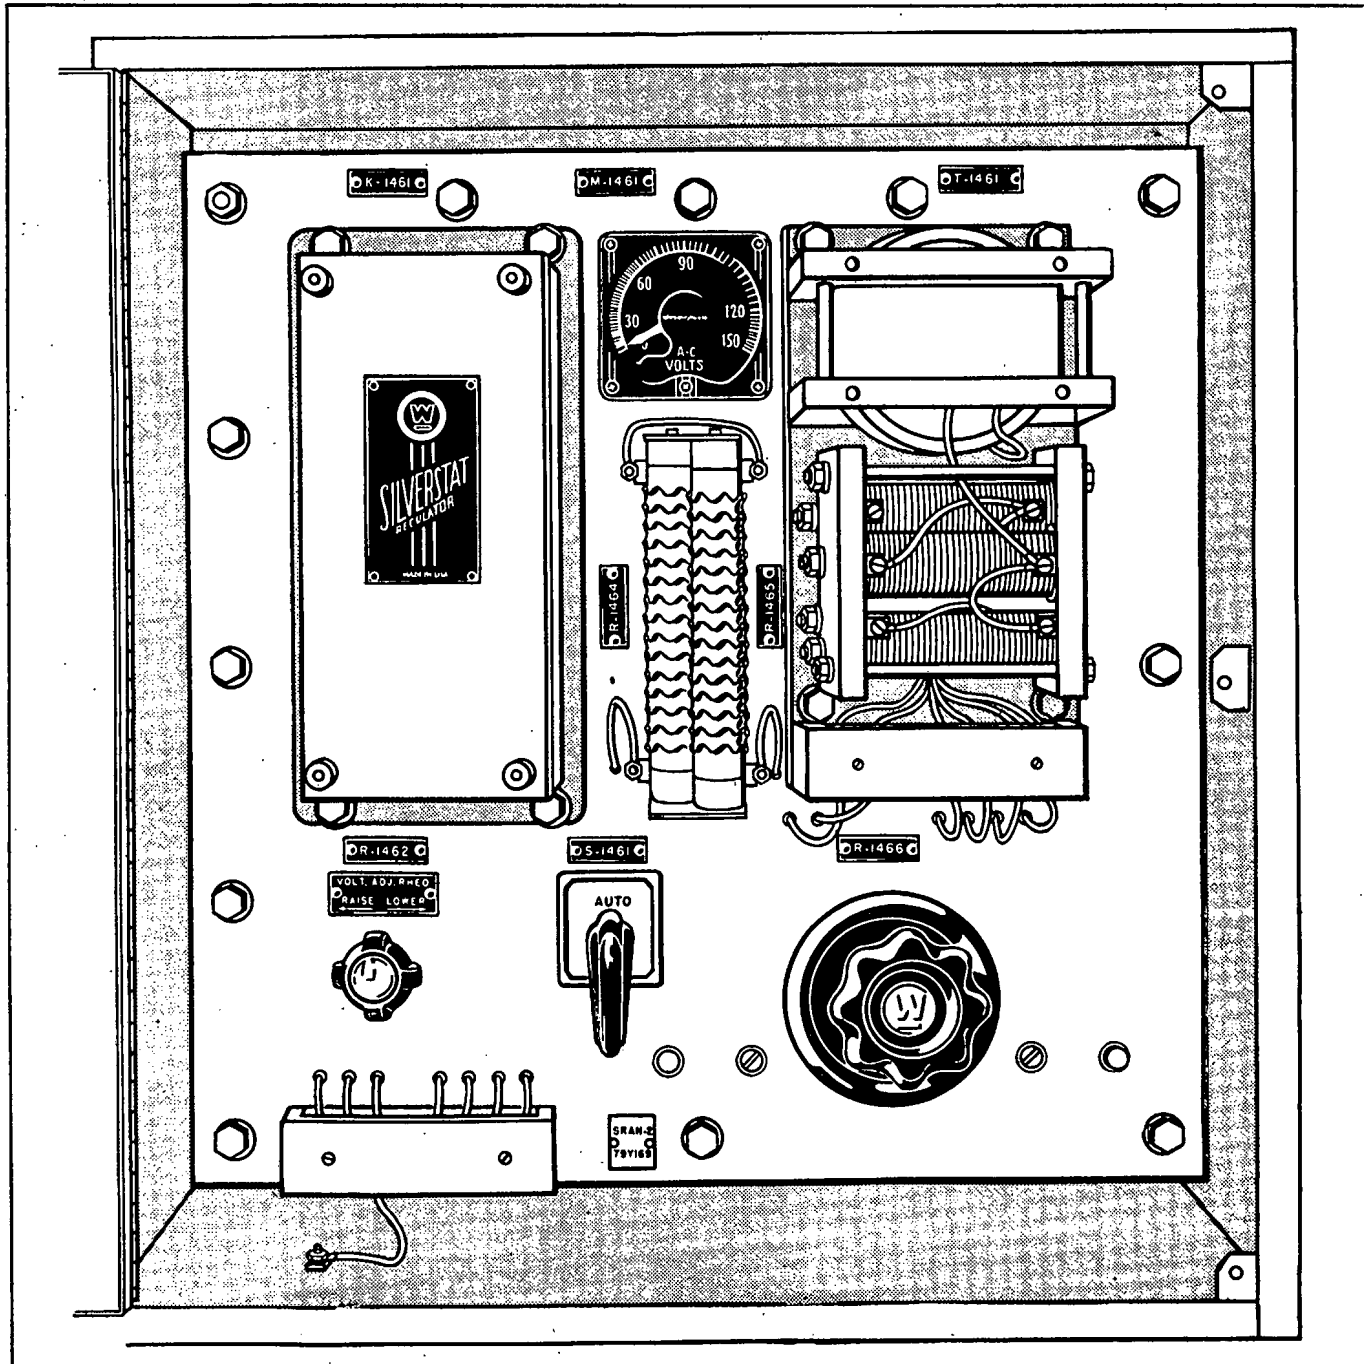

Figure 4-2. Voltage Regulator, Operating Controls
(3) Place switch S-1461 shown in Fig. 4-2 in its AUTO position and read the meter on the Voltage Regulator. It should indicate 120 volts. If it does not,
adjust the VOLT ADJ RHEO control R-1462 until it does. See Fig. 4-2. If manual voltage regulation is desired place switch S-1461 in its MAN position and regulate the voltage with rheostat R-1466.